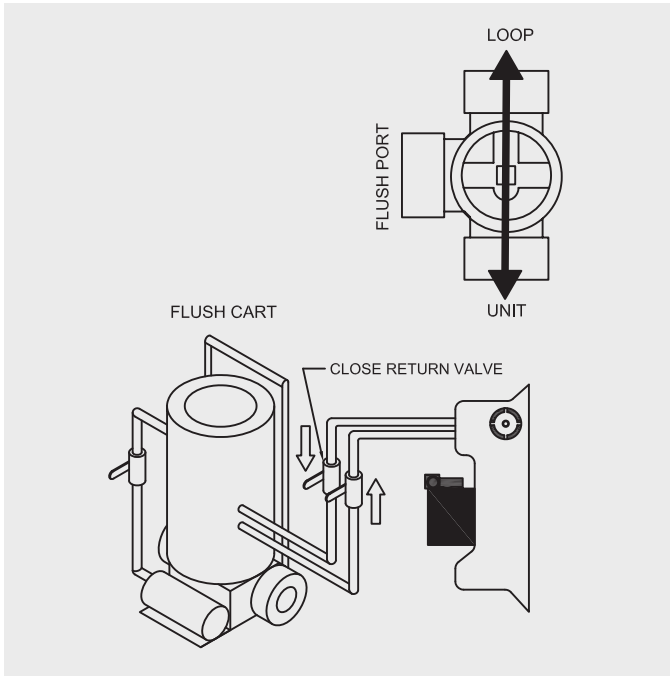

Fig. 115 Flush cart step 5
- Now the final pressurization of the ground loop can be performed (Fig. 115). Close the return line ball valve (dead-head the pump). Allow the flush cart pump to run until there is approximately 50 - 75 PSIG (winter) or 35-40 PSIG (summer) of pressure on the system (whatever the flush cart pump is capable of producing). Turn the return side 3-way valve to the unit/loop position. Turn the supply side 3-way valve to the unit/loop position. Turn the flush cart off, remove the hoses and return the caps to the flow center.